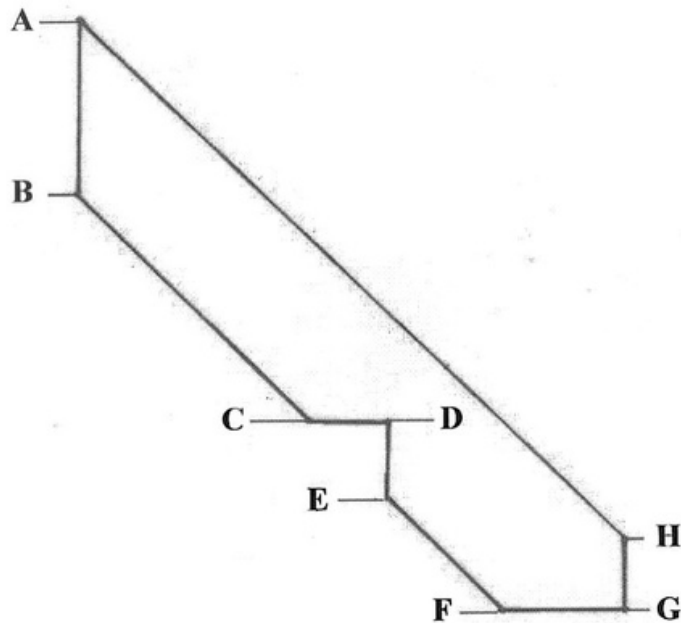

Figure 4
- (c) **Figure 4** shows a common rafter with **FIVE** different cuts. Identify the different cuts indicated by the letters in the **Table 2**. [5]